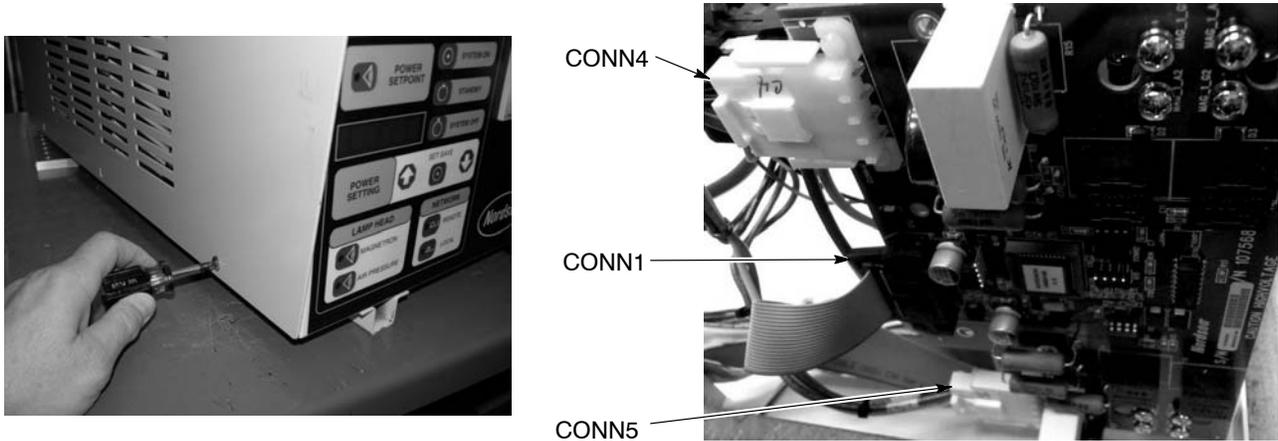

Figure 3 Disconnecting Electrical Connectors
2. See Figure 3. Remove the six M5 screws from the power supply cover. Remove the cover and set it aside.